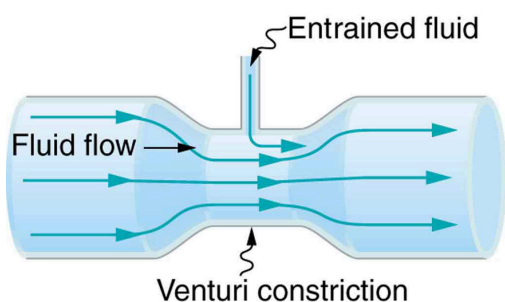

FIGURE 12.24 A tube with a narrow segment designed to enhance entrainment is called a Venturi. These are very commonly used in carburetors and aspirators.
8. Many entrainment devices have a constriction, called a Venturi, such as shown in Figure 12.24. How does this bolster entrainment?